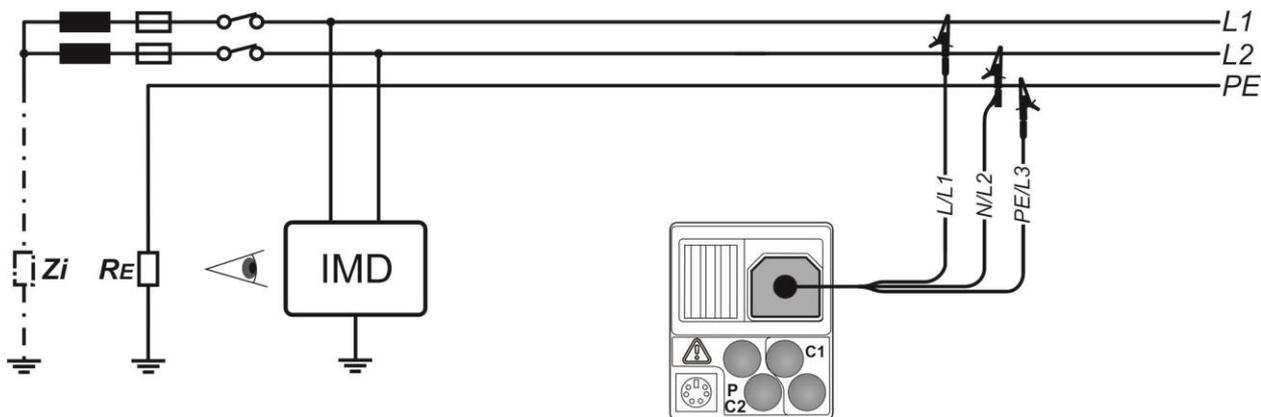

Figure 5.16: Connection with 3-wire test lead
- ❑ **Connect** 3-wire test lead to the instrument and tested item (see Figure 5.16).